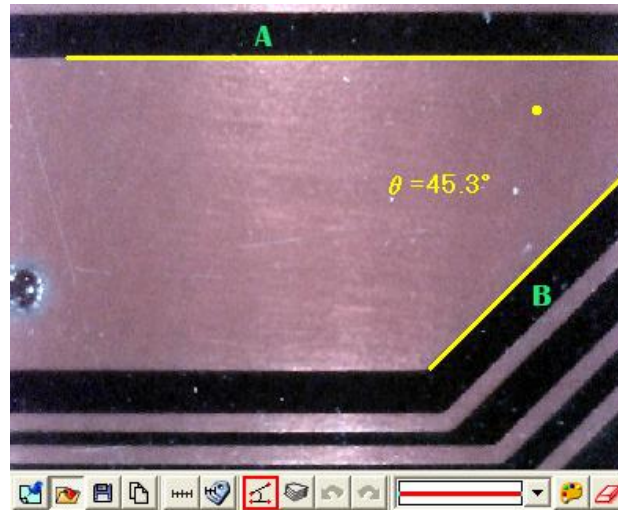

Fig 5-72 4 Points Chamfer
- (7) 4 Points Angle: Use  to measure an angle but only see 2 unparallel lines shown on the object. See Fig 5-72, to draw a 1st line from the object (see line A), and to draw the other unparallel line (see line B), the angle can be automatically calculated. See Fig 5-72. There is a small dot show 45.3°.
There are lines styles shown in Fig.5-72 and can choose different lines.